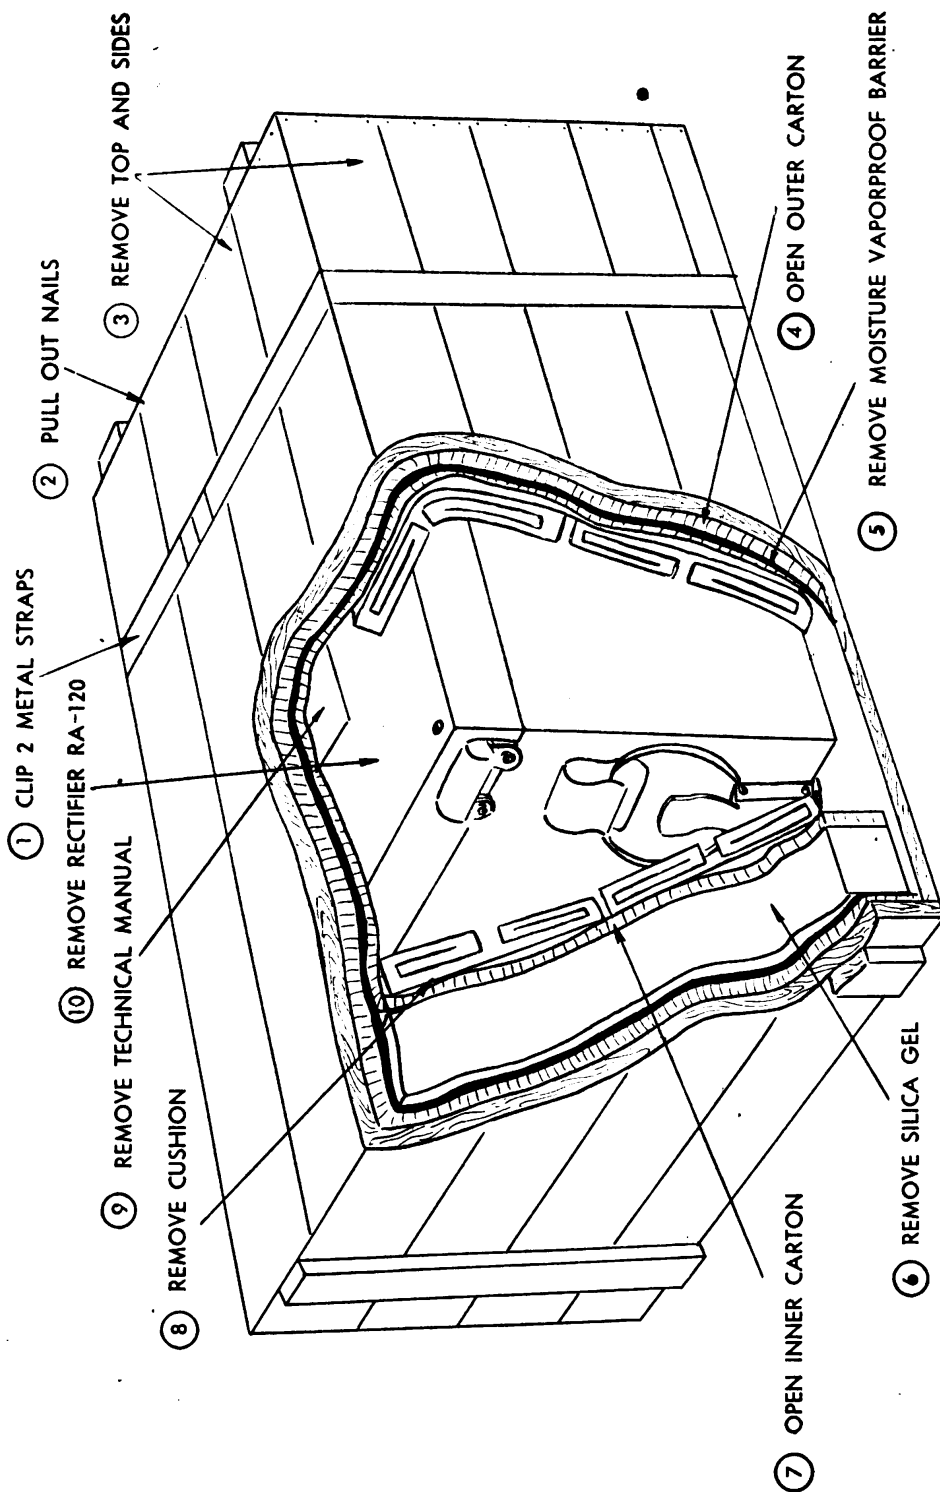

Figure 4. Unpacking procedure.
b. Place the packing case as near the operating location as is convenient. In unpacking Rectifier RA-120, follow the steps outlined below (fig. 4) :
- (1) Cut the steel straps binding the crate.
- (2) Remove the nails, using a nail puller.
- (3) Remove the top and sides of the packing case. *Prying the top and sides off without removing nails may result in damage to the equipment.*
- (4) Open the outer carton.
- (5) Remove the moistureproof, vaporproof barrier.
- (6) Remove silica gel.
- (7) Open the inner carton.
- (8) Remove the cushions.
- (9) Remove the technical manual.
- (10) Remove the rectifier unit from the carton.